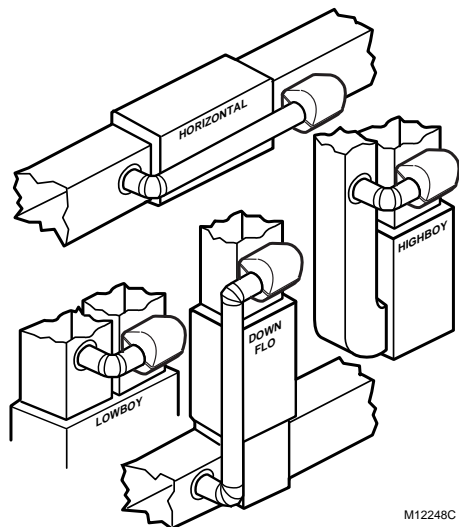

Fig. 3. Typical humidifier installation locations.
1. Determine the best location for the humidifier and draw a level line on the plenum. See Fig. 3.